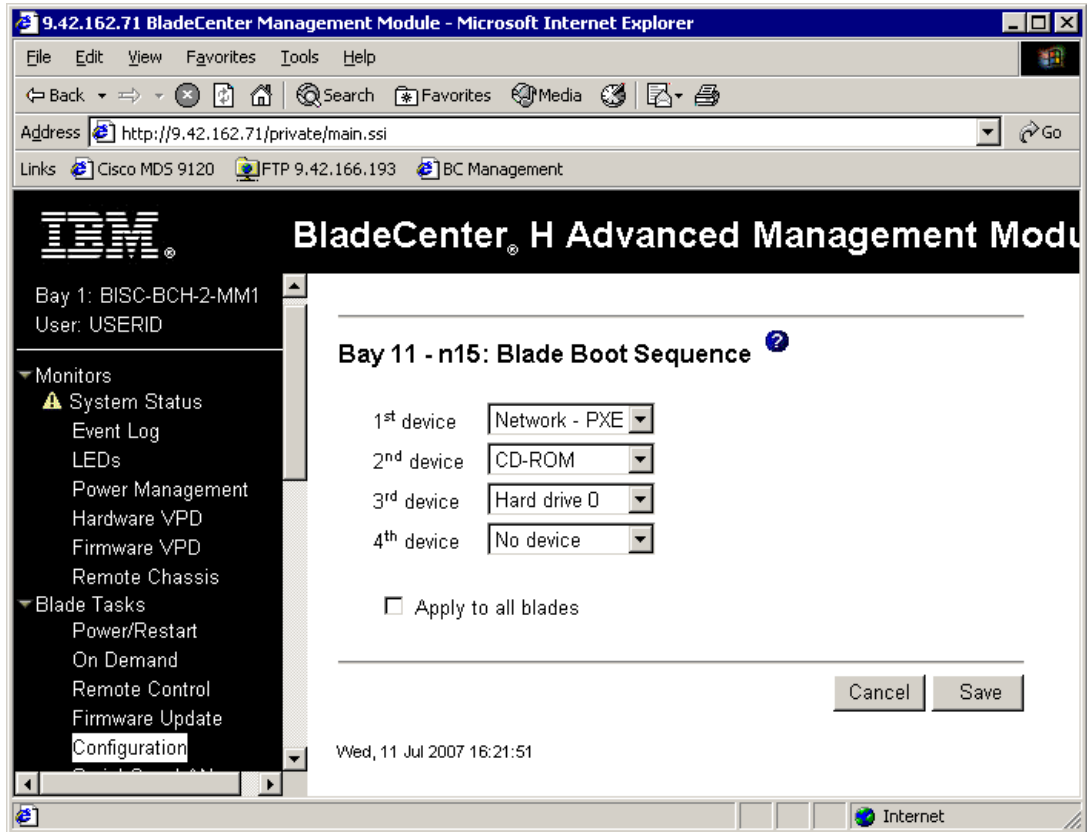

Figure 6-22 Configure Boot Sequence from the Advanced Management Module Web interface
2. Change specific servers by clicking the server name. Figure 6-22 opens, and you can select the boot order.